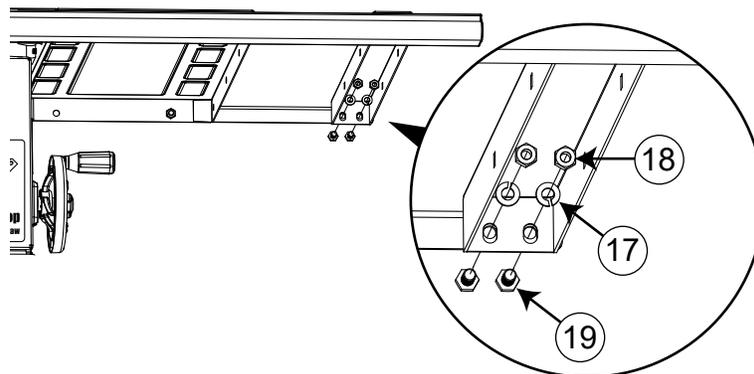

Fig. 9
- Position the material support shelf between the front rail and the right rear rail by sliding the heads of the two square head screws into the slot on the right end of the front rail until the holes in the rear of the material support shelf line up with the holes in the rear rail. Use two M8 x 16 hex screws, two M8 lock washers, and two M8 hex nuts to mount the material support shelf to the rear rail (see Fig. 9). Use a straight-edge to level the top of the material support shelf with the cast iron table top. Use two 13 mm wrenches to fully tighten the hardware that mounts the material support shelf to the right rear rail. Do not tighten the hardware that mounts the material support shelf to the front rail.